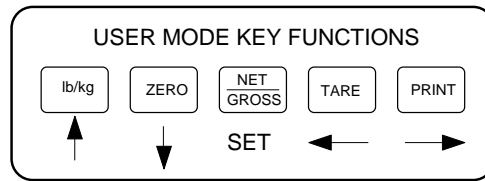

Figure 5-1: User Menu Key Assignments
3. Use the four directional keys (shown in Figure 5-1 below) to adjust the displayed value to the actual ID Number value. Increase the flashing digit by pressing the lb/kg key. Decrease the flashing digit by pressing the ZERO key. Pressing the TARE key or the PRINT key will change the position of the flashing digit.
3. Use the four directional keys (shown in Figure 5-1 above) to adjust the displayed value to the actual line feeds value. Increase the flashing digit by pressing the lb/kg key. Decrease the flashing digit by pressing the ZERO key. Pressing the TARE key or the PRINT key will change the position of the flashing digit.